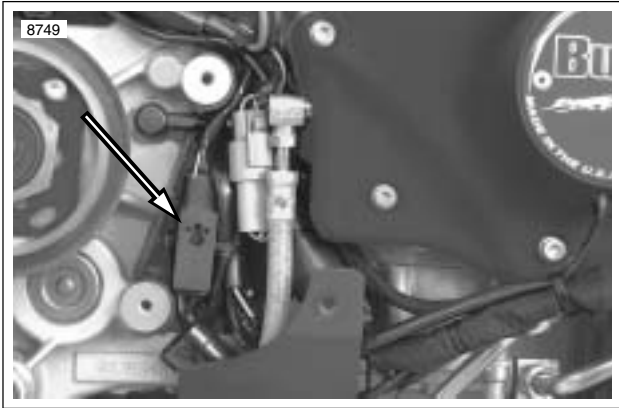

Figure 7-68. Cam Position Sensor Connector
1. See Figure 7-68. Locate the 3-place cam position connector [14] under the sprocket cover. See 2.31 SPROCKET COVER.